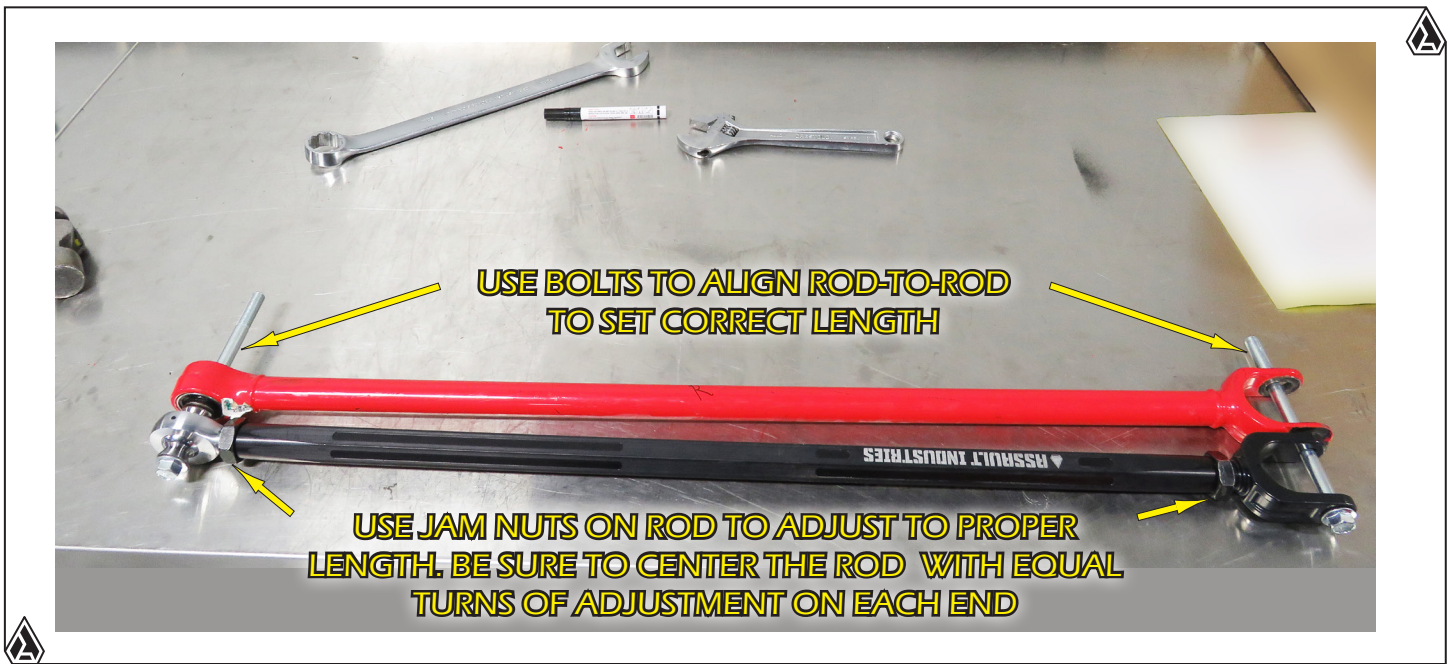

FIG.1
1. First , you will need to adjust the length of the New Rod to the same length as your factory rod. To do this, the easiest way, is to use a long bolt and run it thru one end of both rods, bushing to bushing so you can see the difference of length between the two. See **Fig.1**.
This should center the rod equally between the ends. You can then put another bolt thru the other end to see if they match up bushing to bushing on each end. See **Fig.1**.